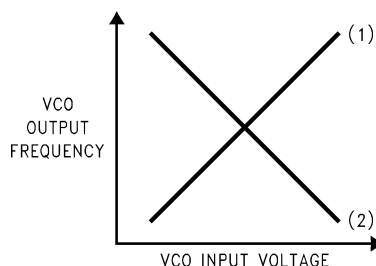

Figure 21. VCO Characteristics
- (1) PHASE DETECTOR POLARITY, Depending upon VCO characteristics, R16 bit should be set accordingly: (see Figure 21) When VCO characteristics are positive like (1), R16 should be set HIGH; When VCO characteristics are negative like (2), R16 should be set LOW.
- (2) Refer to POWERDOWN OPERATION.
- (3) The I_{CP0} LOW current state = 1/4 × I_{CP0} HIGH current.